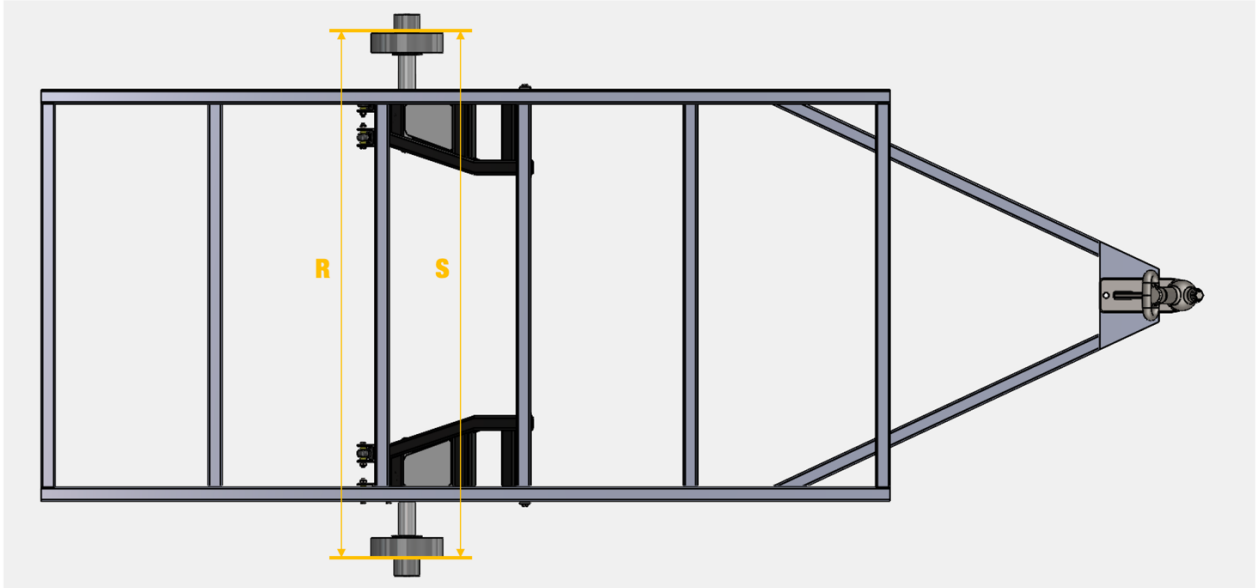

Figure 6
8. Setting the toe-in. Refer to Figure 6. Using the straight edges, measure distance R and S. Manoeuvre the independent suspensions such that distance S is 3mm shorter than distance R. During this process, both the independent suspensions should be moved the same amount to achieve the 3mm difference. This is to ensure the toe-in is set equally on both left and right sides.